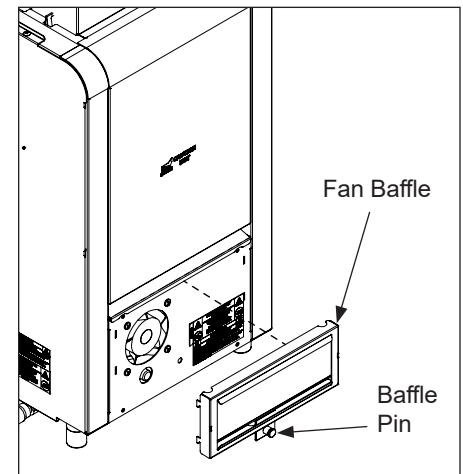
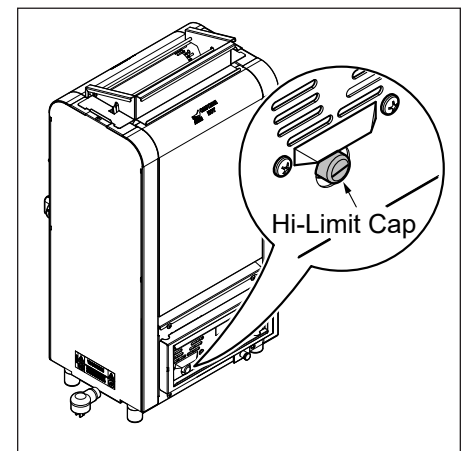

Figure 5. Remove Fan Baffle
Figure 6. Hi-Limit Cap
Remove the fan baffle by pulling the baffle pin and lift the baffle up and out (Figure 5). Then remove the Hi-Limit control cap by twisting the cap off by hand or with a coin (Figure 6). Then, press the reset button located on the rear of the unit.
8. Scrub each side of toasting platen gently with scrub pad, applying additional Grill cleaner to scrub pad as needed (Figure 5)